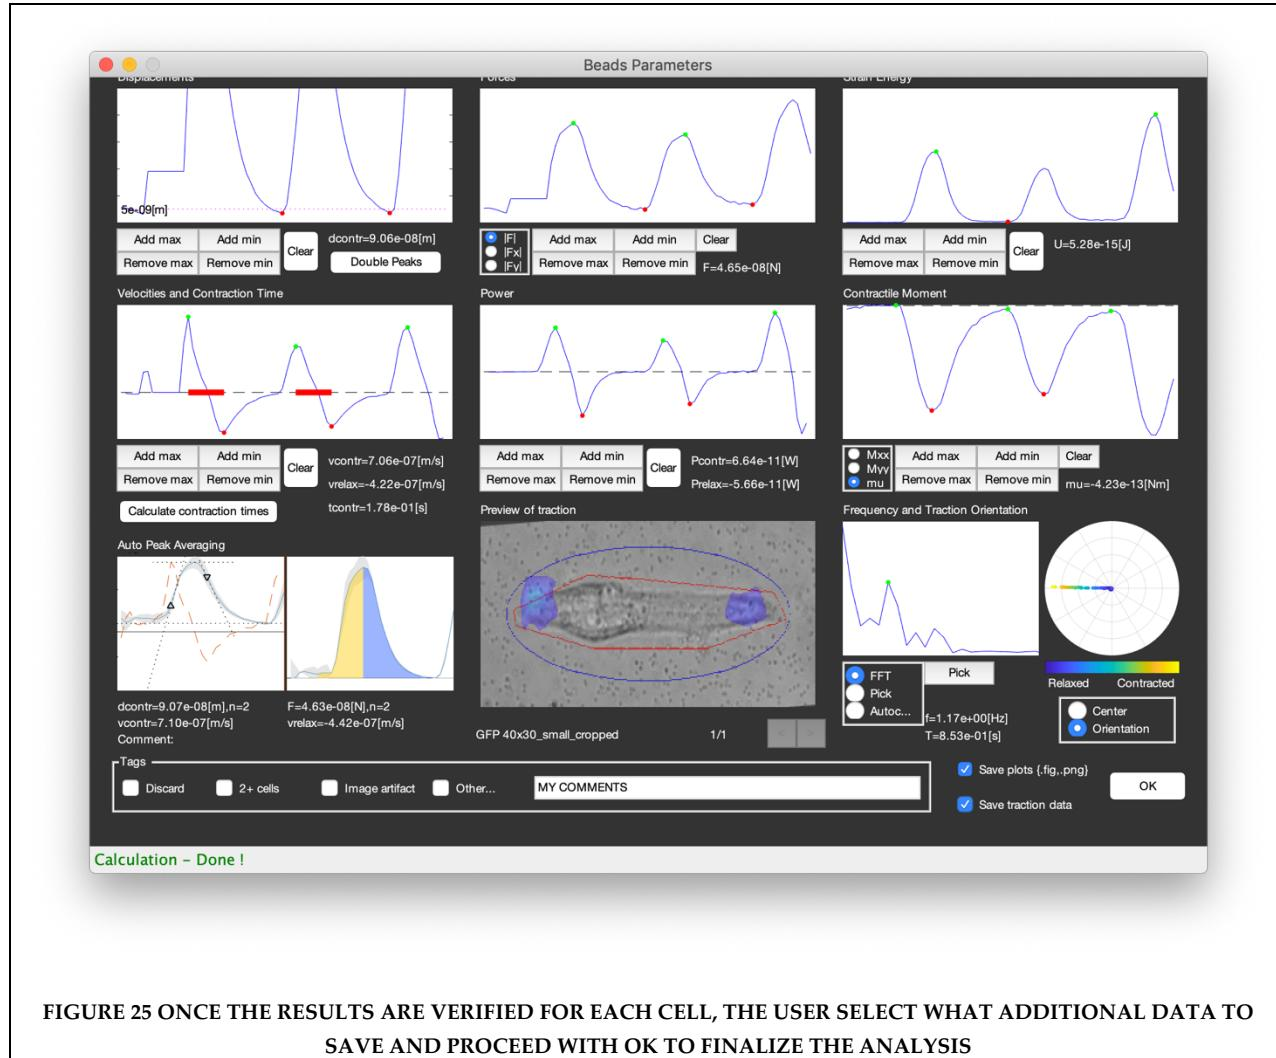

FIGURE 25 ONCE THE RESULTS ARE VERIFIED FOR EACH CELL, THE USER SELECT WHAT ADDITIONAL DATA TO SAVE AND PROCEED WITH OK TO FINALIZE THE ANALYSIS
4. *Tags*: The user can select between four predefined tags to mark cell videos that may not match the user required data quality and a comment field. The flag value for each tag and the comments left by the users are saved in the results file and enable easy data curation post-analysis (Figure 25).